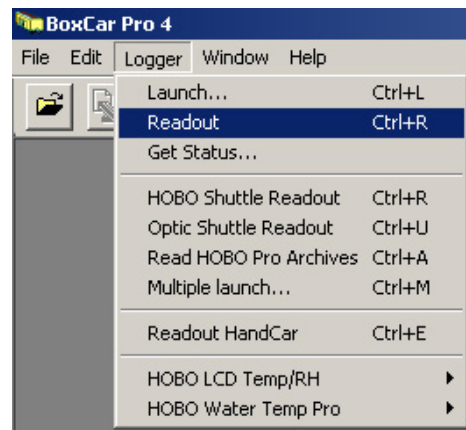

Figure 5: Readout menu
4. **Begin the data retrieval process.** Click the *Readout* button  or by selecting *Readout* from the *Logger* menu as shown as shown in figure 5.